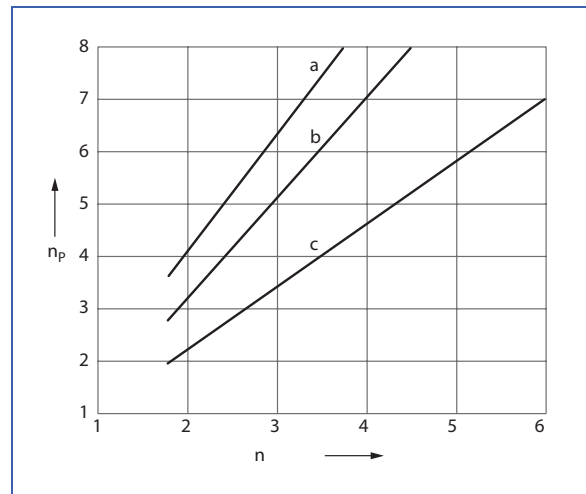

Figure 29 Diagram for an approximate determination of the number of Bosch FKC-1 collectors for DHW heating (observe calculation principles!)
Figures 29 to 35 are based on a sample calculation with the following system parameters:
Determining the number of collectors in accordance with figure 29 results in an annualized solar coverage of approx. 60%
Legend (Figure 29)
- According to figure 29, curve b, two Bosch FKC-1 high-performance flat-plate collectors are required.